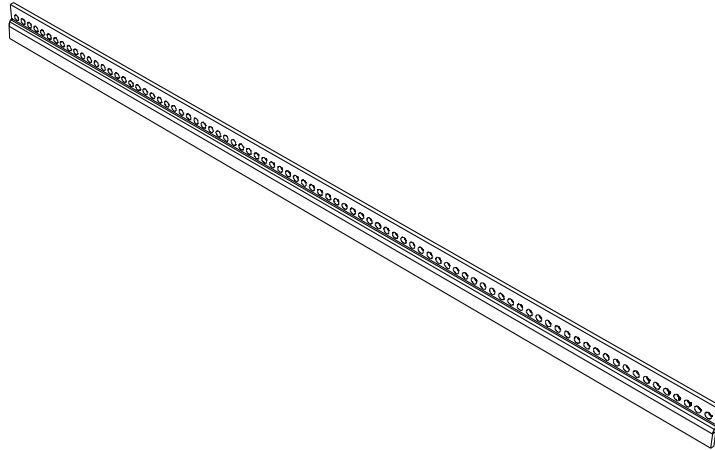

Figure 4: PCB Card Retainer Bar
2. Use a #1 Phillips-head screwdriver to remove the mounting screws/washers (five per bar) from the top and bottom PCB card retainer bars (see Figure 4) on the system. Keep the retainers and screws together in a safe place for replacement later.
1. Use a #1 Phillips-head screwdriver to remove the mounting screws/washers (five per bar) from the top and bottom PCB card retainer bars (see Figure 4) on the system. Keep the retainers and screws together in a safe place for replacement later.
12. Reinstall the top and bottom PCB card retainer bars (see Figure 4). Use a #1 Phillips-head screwdriver to replace the mounting screws/washers (five per bar).